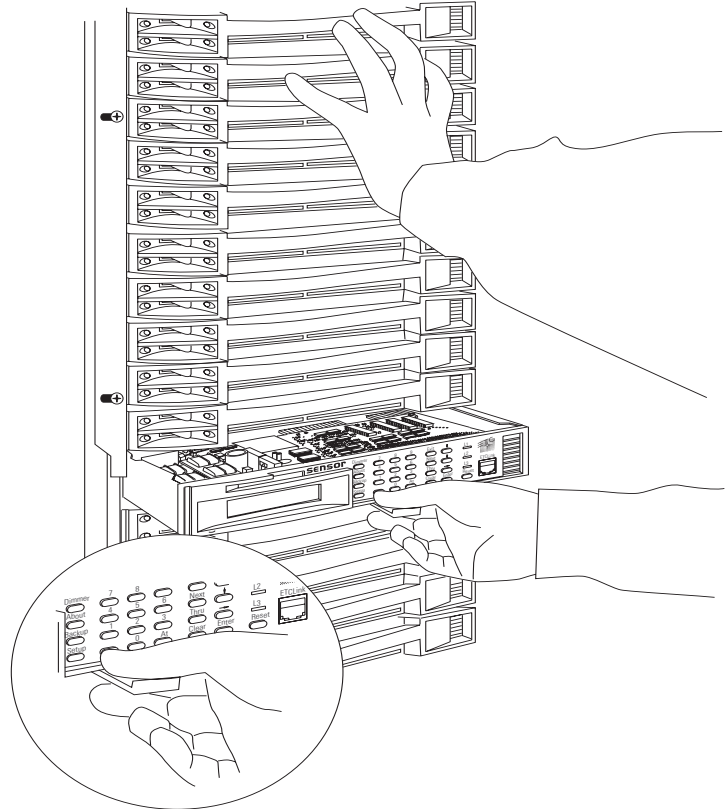

Figure 16: Removing a CEM module
2. Open the rack door. The safety stops are along the left side of the dimmer modules. See the illustration in Figure 16.